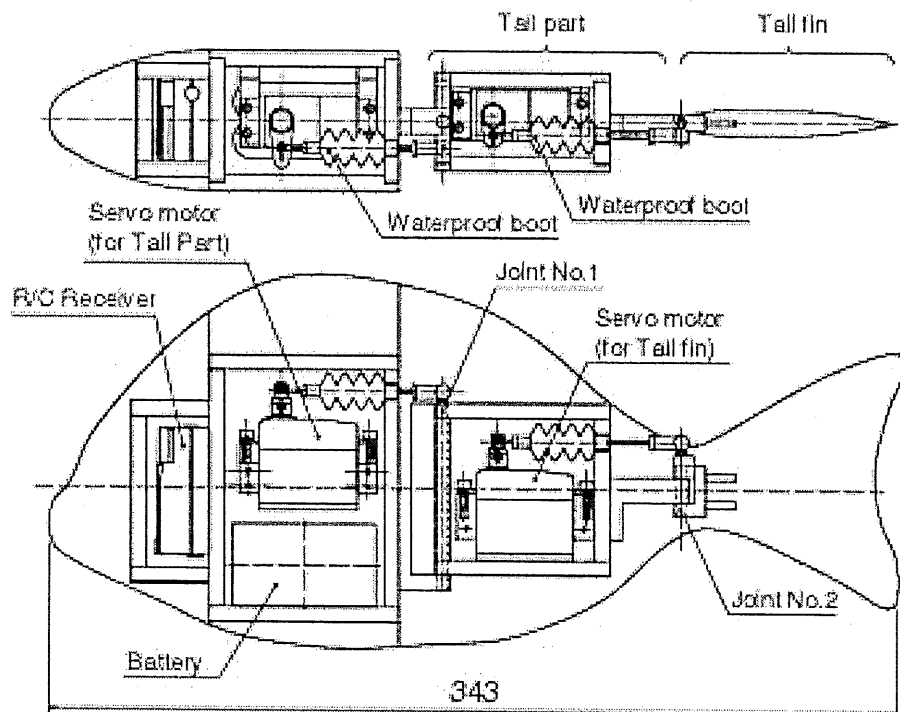

Figure 4: Fish robot Diagram
- b) Figure 4 shows a structure of a fish robot who's the movement is controlled by two (2) servo motor at a fish tail: